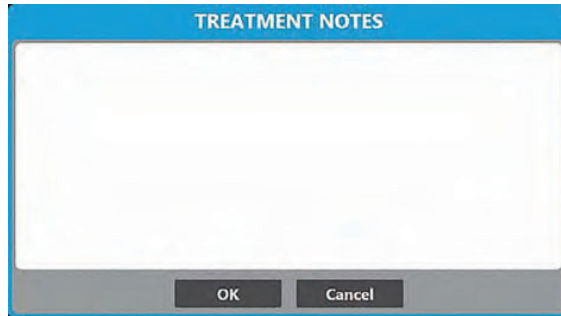

Figure 16. **TREATMENT NOTES** window
- Press the **TREATMENT NOTES** button on the Therapy screen to add observations and other relevant information to the treatment file (Figure 16).